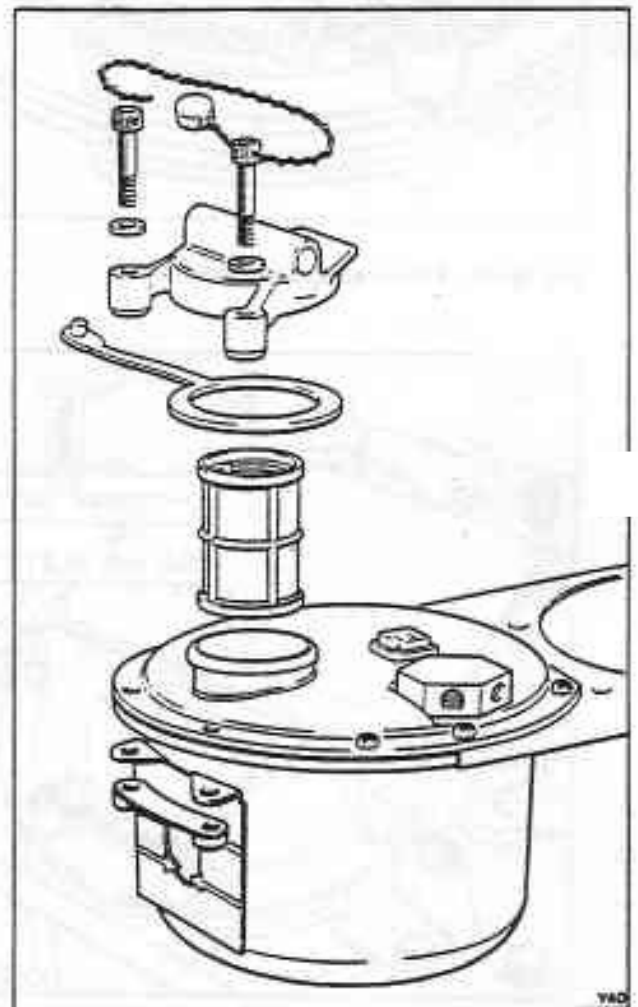

Fig. G5-6 Hydraulic system mineral oil filler neck and locking device
4. Fit the replacement sealing washers and filler caps (see fig. G5-6).